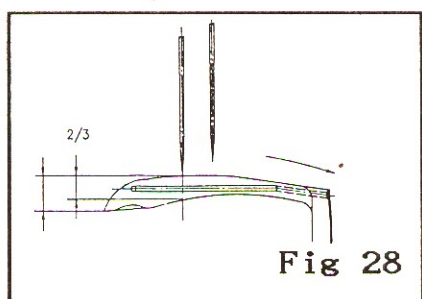

Fig 28
- 1.For the 2-needle machine, while the end of the left needle is in 2/3 position of the Looper. (Fig 28)